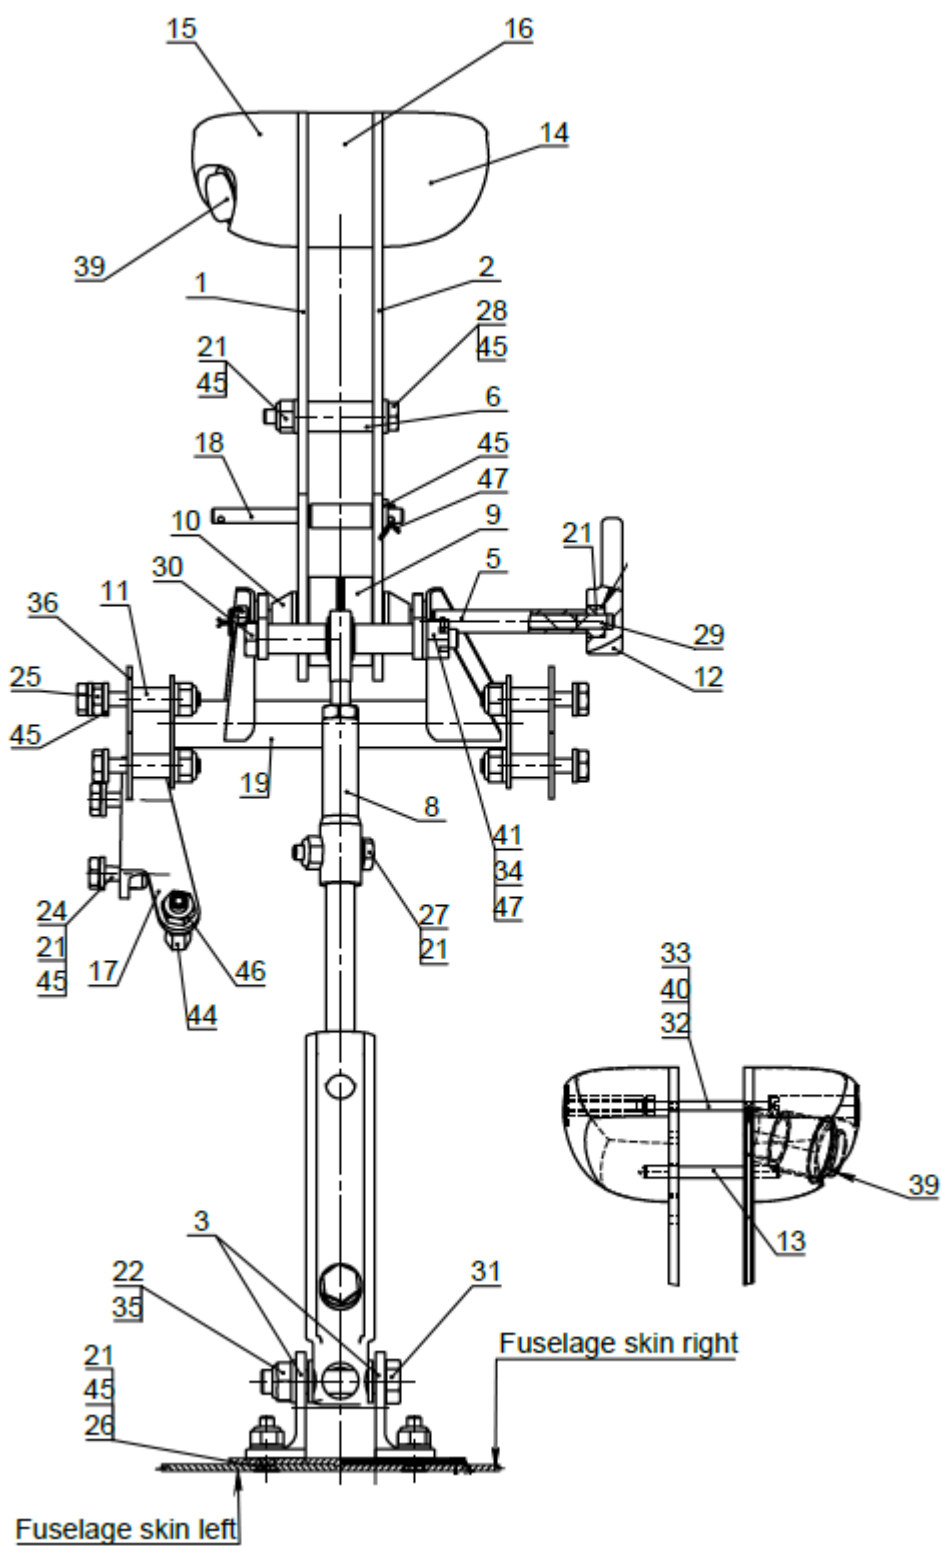

Fig. 76-00-2
Detailed view is given in Fig. 76-00-2.
B. Throttle Box Check (Fig. 76-00-2).